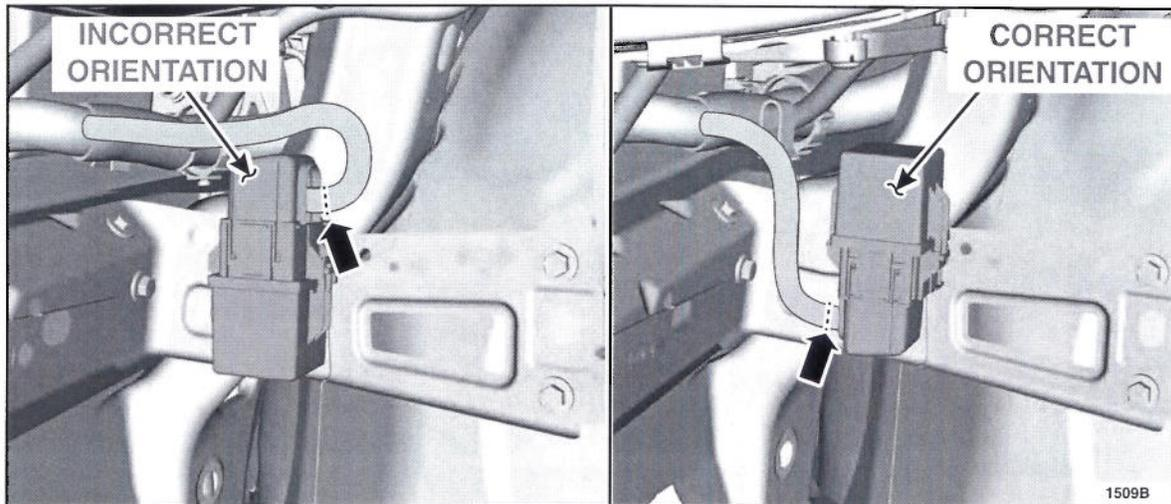

FIGURE 3
5. Cut all three wires near the relay box as indicated in Figure 3. Remove and discard the relay box.
15. Install the *new* relay box to the vehicle in the correct orientation, with the wire harness on the bottom. See Figure 3.